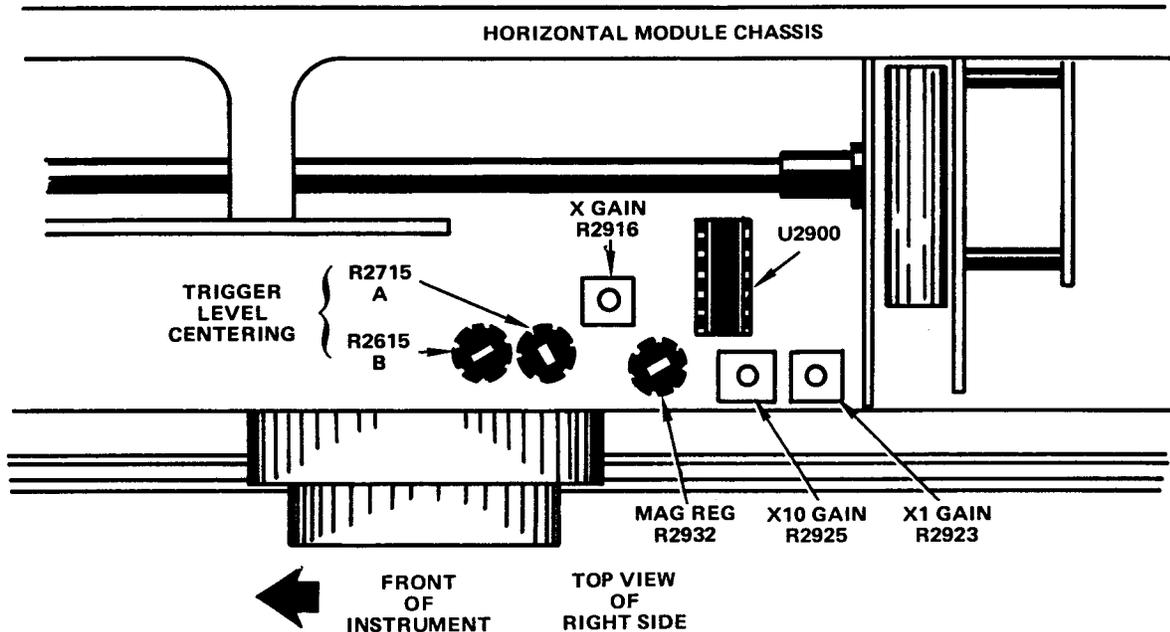

Figure 5-22. Trigger and horizontal adjustment locations.
(12) Set DELAY TIME POS to 0.0.
(13) Continue to the next procedure.
p. Horizontal Gain (Figure 5-22).
(1) Set HORIZ DISPLAY to A.
(2) Adjust X1 GAIN, R2923 until the 1st and 11th time marks are exactly aligned with a graticule line. There should be one time mark per division within 0.25 minor divisions.
(3) Set X10 MAG to In (on).
(4) Set time mark generator for .1 ms time marks.
(5) Adjust X10 GAIN, R2925 for one time mark per division.
(6) Continue to the next procedure.
q. Magnifier Registration (Figure 5-22).
- (1) Set X10 MAG to In (on).
- (2) Adjust horizontal POSITION until the sweep starts at the center vertical graticule line.
- (3) Set X10 MAG to Out (off).
- (4) Adjust MAG REG, R2932 until the sweep starts at the center vertical graticule line.
(4) Check the beginning and end of the .05 microsecond sweep using step 19 in Table 5-1 and excluding the first and last 40 nanoseconds of the sweep. If necessary, slightly readjust C232 and C272 for one time mark per two divisions.
(5) Disconnect the generator.
u. X Gain (Figure 5-22).
(1) Set controls as follows: